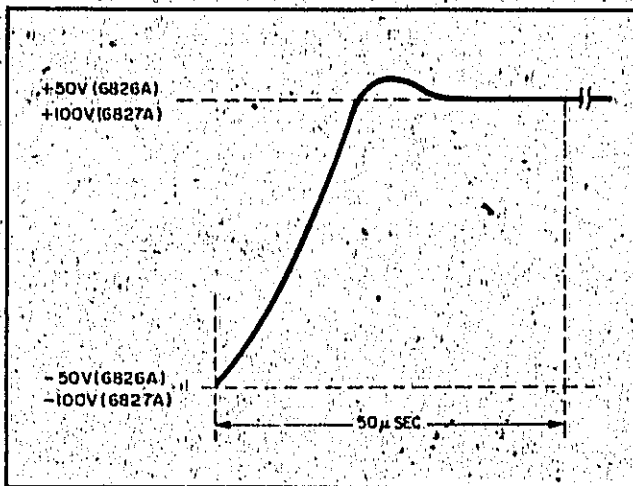

Figure 5-7. Typical Programming Speed Waveforms
- Adjust oscilloscope to observe rise time of one squarewave. The waveshape should be within the tolerances shown on Figure 5-7 (output should change from maximum rated negative value to maximum rated positive value in less than 50 μ sec).